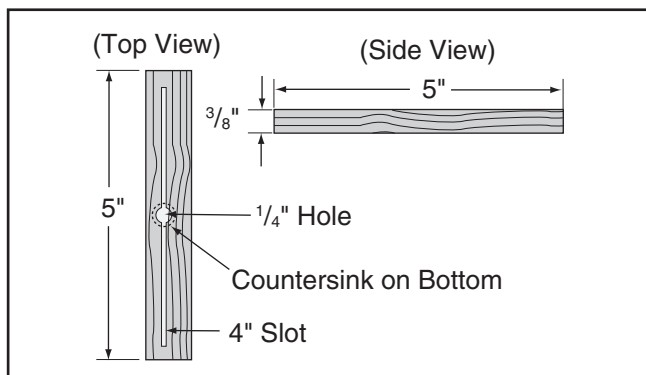

Figure 82. Miter bar pattern.
5. Cut a miter bar that will fit in the table miter slot approximately 5" long, as shown in **Figure 82**.